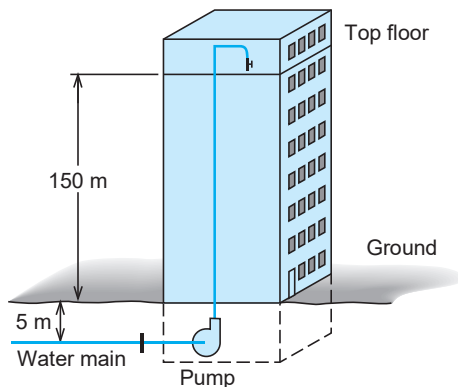

FIGURE P6.74
6.74 The main water line into a tall building has a pressure of 600 kPa at 5 m below ground level, as shown in Fig. P6.74. A pump brings the pressure up so that the water can be delivered at 200 kPa at the top floor 150 m above ground level. Assume a flow rate of 10 kg/s liquid water at 10°C and neglect any difference in kinetic energy and internal energy u . Find the pump work.